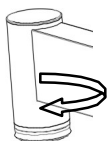

Figure 2
- Adjustable feet for height adjustment are installed on the four legs of the table. Every time after moving, please make sure that the four adjustable feet are in full contact with the ground, otherwise you should rotate the adjustable feet to adjust.(Figure 2)